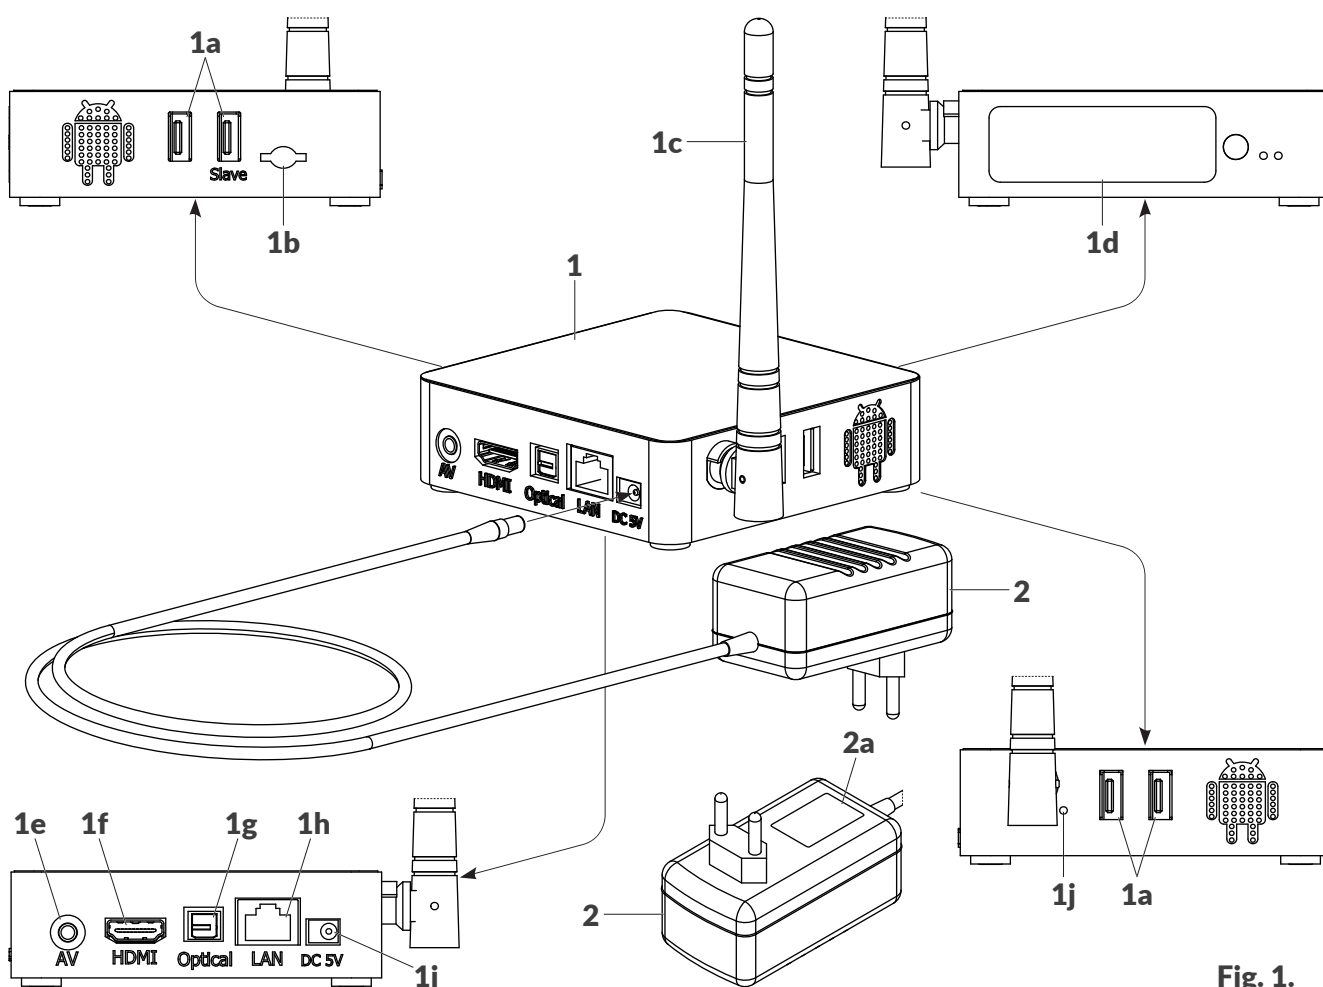

Fig. 1.
Any out of four **USB** connectors (**1a**; see Fig. 1 on page 11) in the **my.ebs.ink®** controller (**1**) can be used for connecting a **USB** keyboard. With the keyboard, the user can log into the controller system, for example to restore the default settings or to read the network configuration.
The **HDMI** connector (**1f**; see Fig. 1 on page 11) in the **my.ebs.ink®** controller (**1**) can be used for connecting an external readout device, e.g. a monitor. With the keyboard, the user can log into the controller system, for example to restore the default settings or to read the network configuration.
The **Ethernet** connector (**1h**; see Fig. 1 on page 11) in the **my.ebs.ink®** controller (**1**) can be used for connecting the controller to a local **Ethernet** network or directly to a **PC**.
The following connectors (see Fig. 1 on page 11) are not used:
2. Connect power adapter **2** (see Fig. 1 on page 11) to the **DC 5V** connector (**1i**) in the **my.ebs.ink®** controller and to an electric outlet.